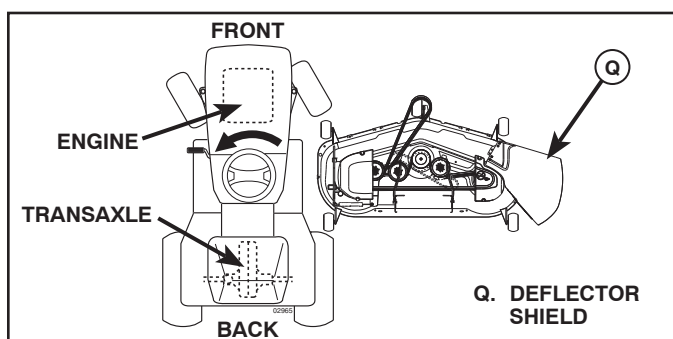

Fig. 24
3. TURN STEERING WHEEL LEFT AND POSITION MOWER (See Fig. 24)
- Turn steering wheel to the left as far as it will go and position mower on right side of tractor with deflector shield (Q) to the right.